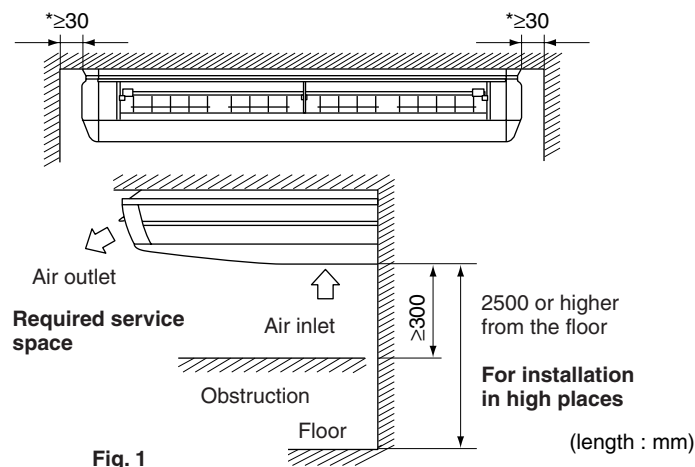

Fig. 1
- (1) Select an installation site where the following conditions are fulfilled and that meets your customer's approval.
- Where sufficient clearance for maintenance and service can be ensured. (Refer to Fig. 1)